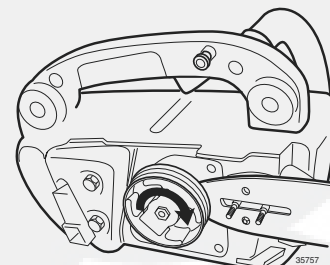

Figure 13.6 Remove the Clutch Assembly
- STEP 2.** Use a 13 mm wrench to remove the clutch shoe assembly in a clockwise rotation (Figure 13.6).